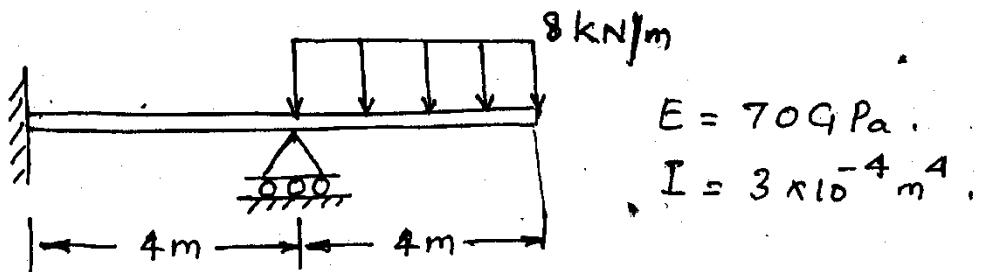

Fig. Q. 5b
- b) For the beam shown in **Fig. Q. 5b**, evaluate the unknown displacements and rotations. (06)